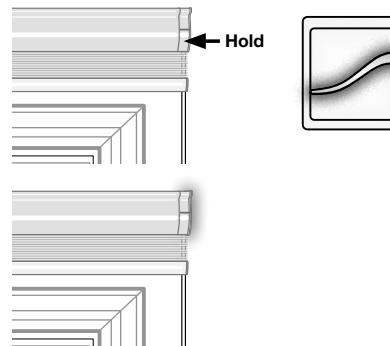

Fig. 30
- B. Press and hold the button on the shade end until the LED begins to flash green (about three seconds) and release. If inclusion is successful, the shade will appear as a found Z-Wave device in the home automation system user interface. Repeat this step for each shade and remote being added to the home automation system. (Fig. 30)